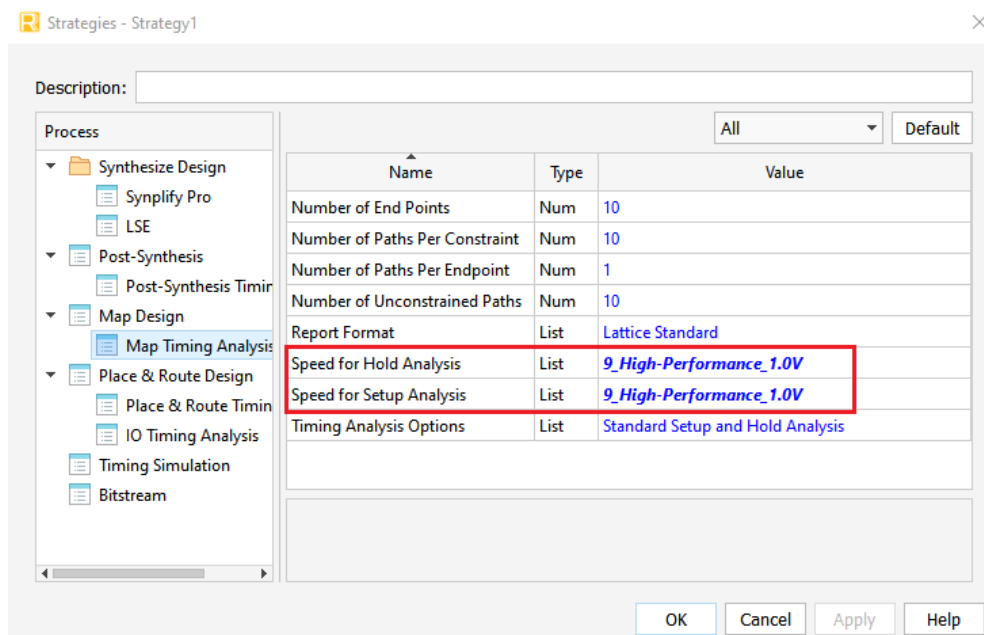

Figure C.76. MAP Analysis Setting for Main System Bit File Generation
11. Click the Strategy and go to **Map Design > Map Timing Analysis**. Select the highlighted settings as shown in Figure C.76.